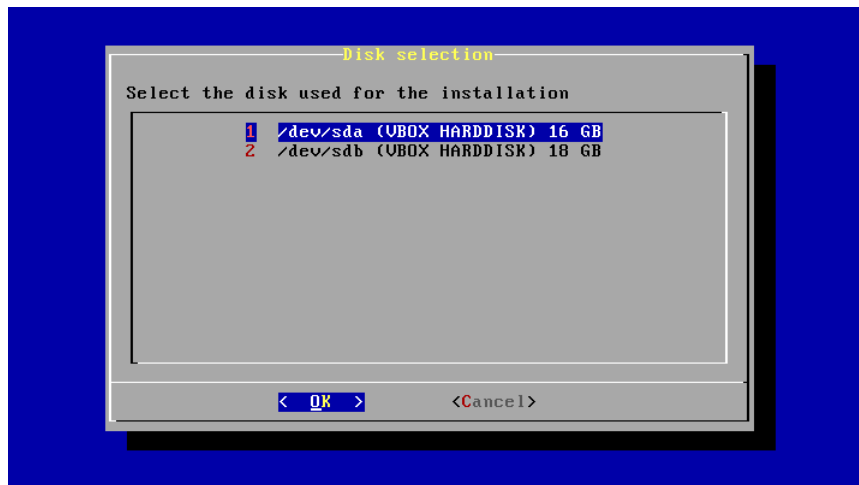

Figure 2.2 Disk selection menu.
2. If the system only has one disk, then proceed to the next step; otherwise, the installation program shows all the available disks and asks the user to select where the BQN software should be installed, as shown in Figure 2.2. The disk type and size is displayed for each disk for better identification.